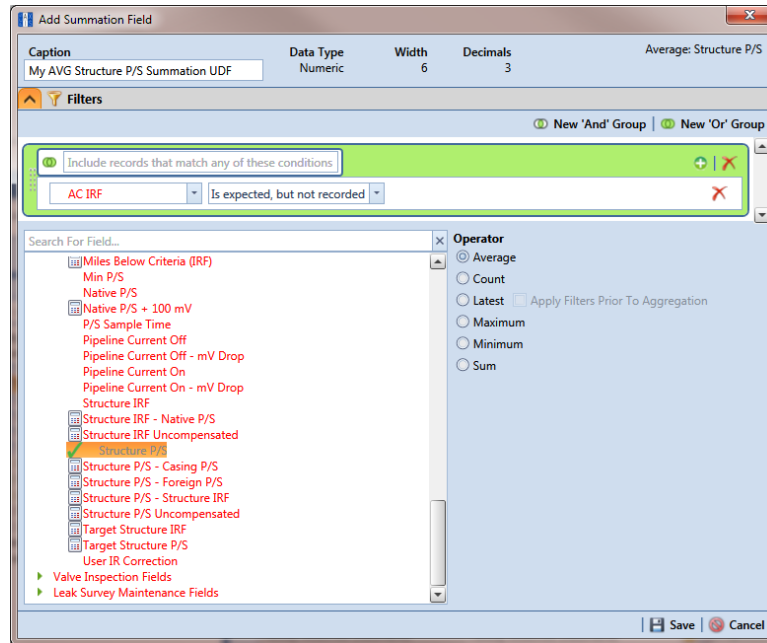

Figure 3-65. New 'Or' Filter
- b** Click  **New 'Or' Group** to open the filter properties group box (Figure 3-65).